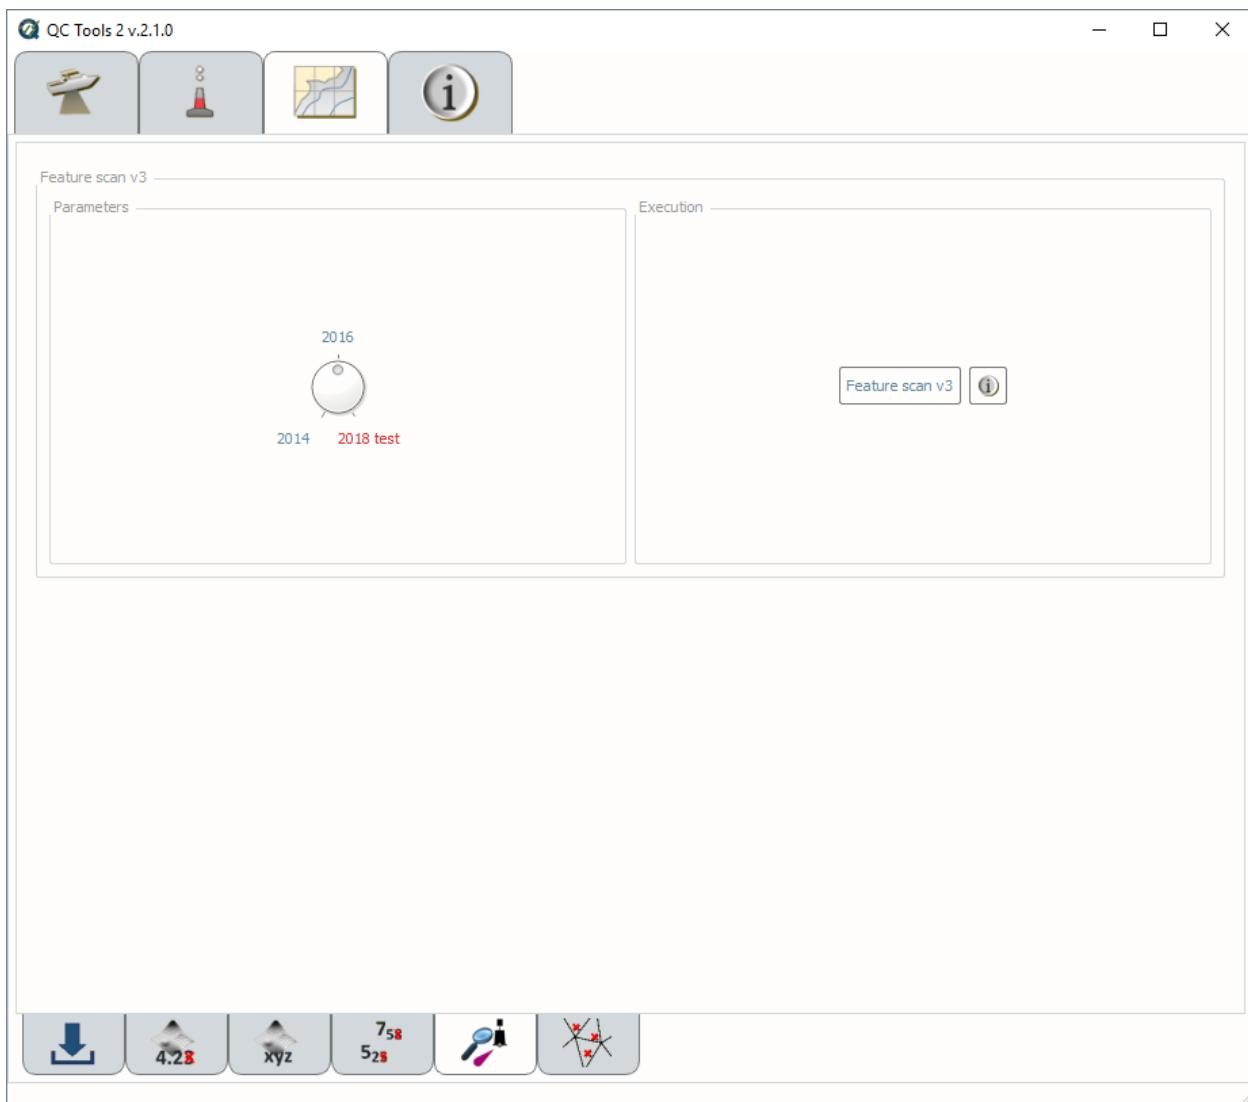

Fig. 2.76: Feature scan's interface.
- In **Parameters** (Fig. 2.76, left side), turn the knob to select the required year of HCell Specification. Currently, the ‘2018 test’ is duplicative to 2016.
- In **Execution** (Fig. 2.76, right side), click **Feature scan v2**.